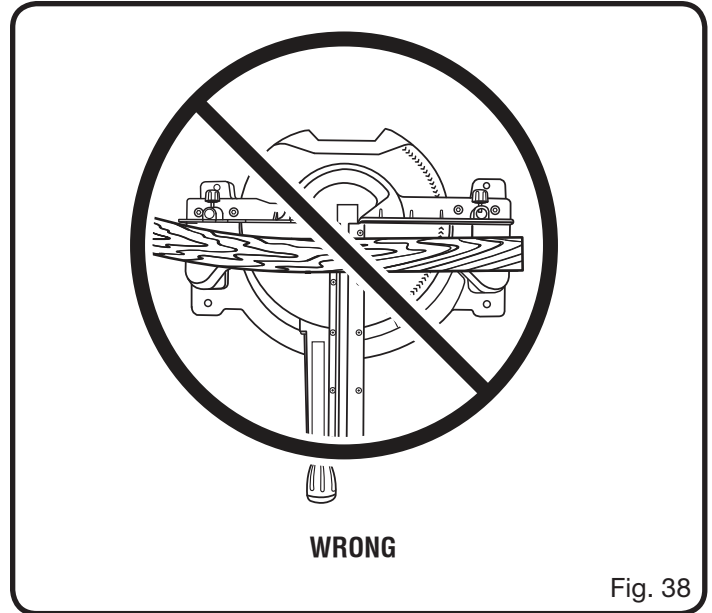

Fig. 38
- Place the workpiece flat on the miter table with one edge securely against the fence. If the board is warped, place the convex side against the fence. If the concave edge of a board is placed against the fence, the board could collapse on the blade at the end of the cut, jamming the blade. See Figures 38 - 39.
If the warped material is positioned the wrong way as shown in figure 38, it will pinch the blade near the completion of the cut.